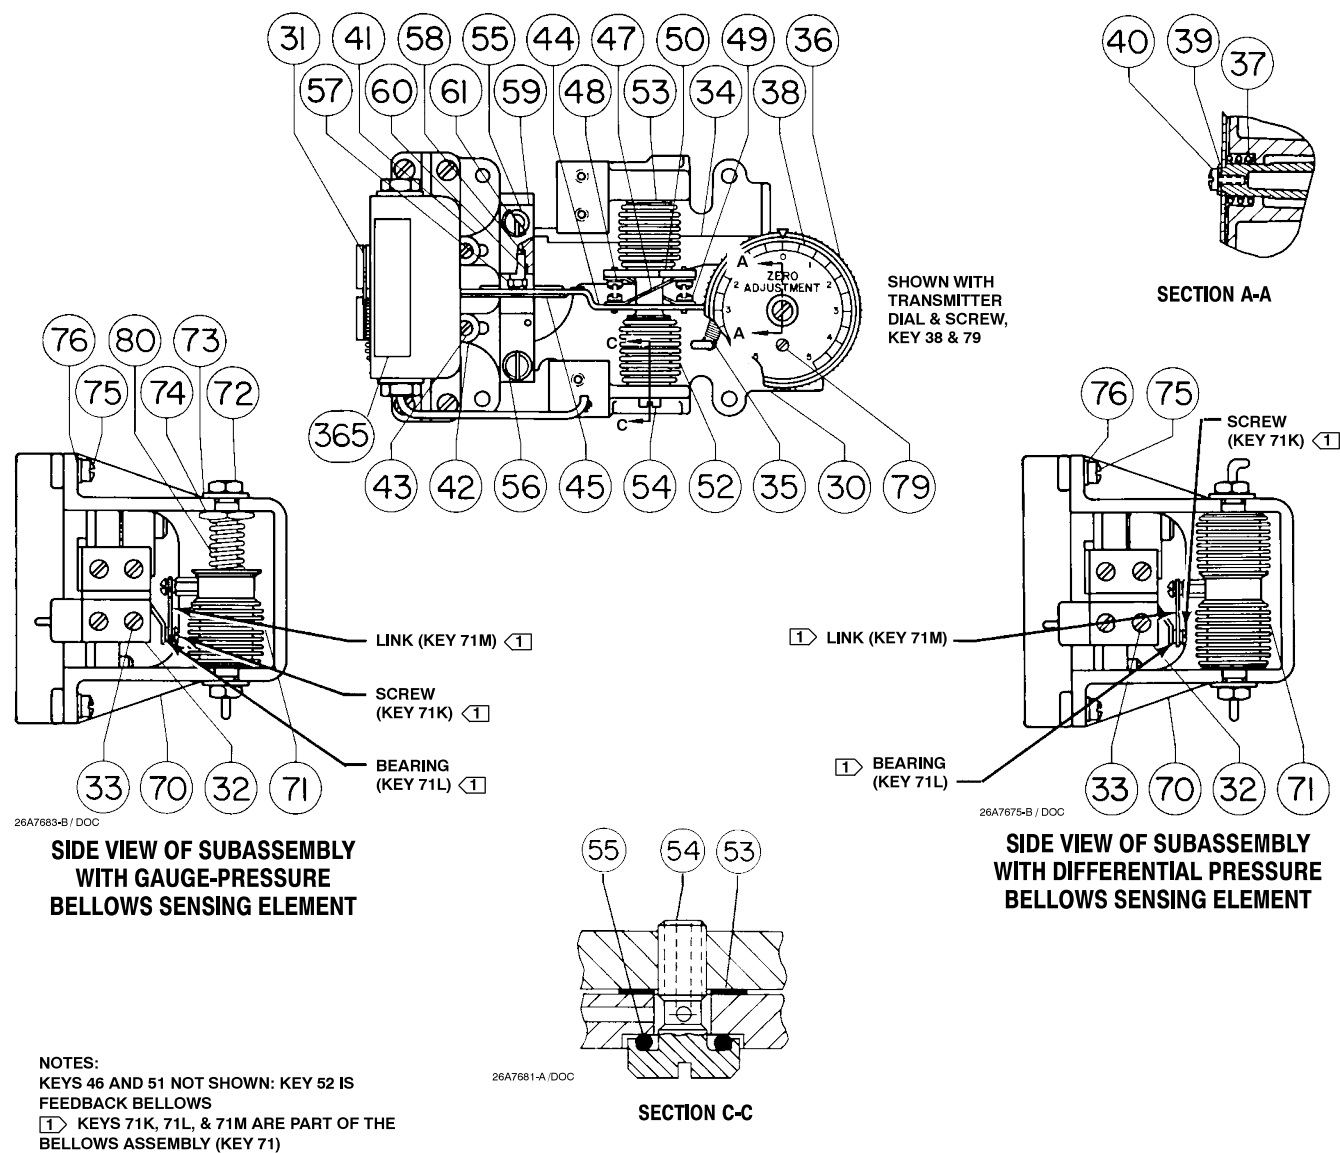

Figure 21. Controller Subassembly with Either Gauge-Pressure Bellows or Differential-Pressure Bellows Sensing Element
A subassembly with gauge pressure bellows sensing element as shown in figure 21 contains the following key numbers: 30 through 37, 39 through 61, 71K, and 71L. The machine screws, key 77, quantity of 2, and washers, key 76, quantity of 2, also come with the subassembly. The two washers, key 76, may be used with the machine screws, key 75, but four washers and machine screws are required so two more washers must be ordered. The machine screws, key 77, are not used on subassemblies with bellows input so they may be discarded. Although two machine screws, key 71K, and two bearings, key 71L, are included with the subassembly, they
A subassembly with differential pressure bellows sensing element as shown in figure 21 contains the following key numbers: 30 through 37, 39 through 61, 71K, and 71L. The machine screws, key 77, quantity of 2, and washers, key 76, quantity of 2, also come with the subassembly. The two washers, key 76, may be used with the machine screws, key 75, but four washers and machine screws are required so two more washers must be ordered. the machine screws, key 77, are not used on subassemblies with bellows input so they may be discarded. Although two machine screws, key 71K,